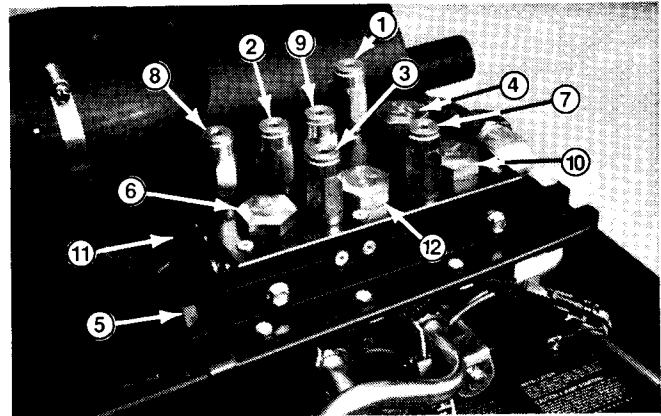

Figure 30
1. Remove affected cartridge (Fig. 30). Inspect cartridge for sticking, plugged orifice, damage or wear and replace if necessary. It is recommended to replace seals when reinstalling a used cartridge.